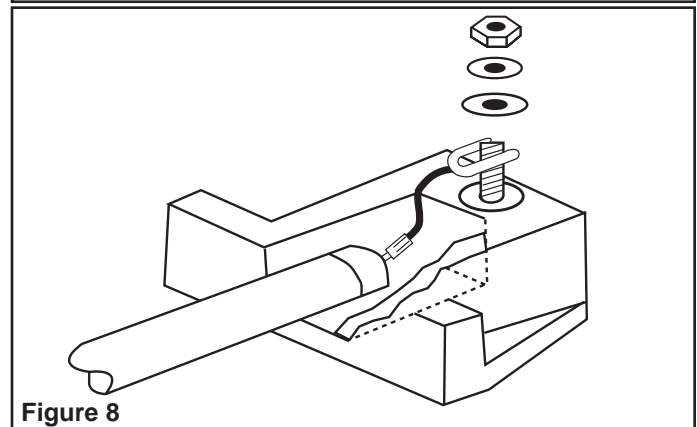

Figure 8
1. Remove terminal cover at each of fixture to gain access to terminal blocks. Loosen #10 hex nut and install element as shown in Figure 8.
1. Remove terminal cover at each end of fixture to gain access to terminal blocks. Loosen #10 hex nut, then attach one end of element as shown in Figure 8. With one end of